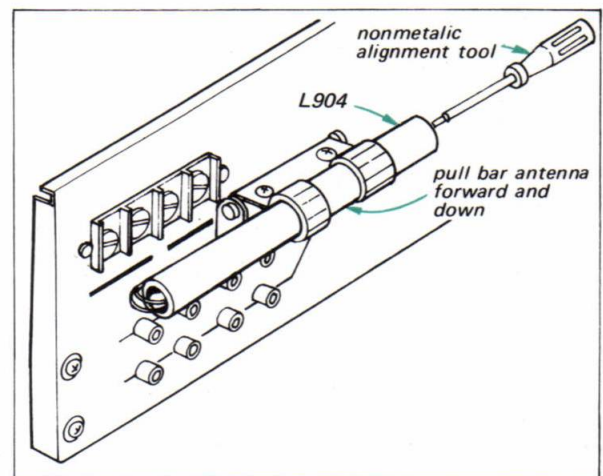

Fig. 3-12. A-m bar antenna core adjustment
1. Tune the set to the station whose carrier frequency is closest to 620 kHz and adjust the position of antenna core L904 as shown in Fig. 3-12 to obtain maximum output.